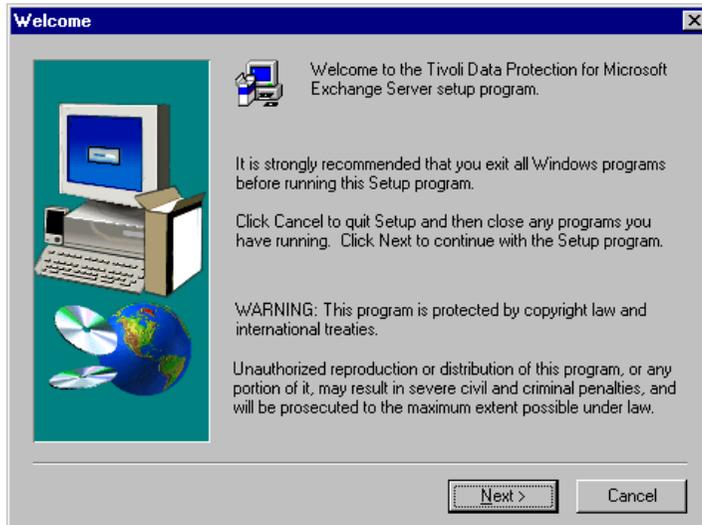

Figure 56. Installing TDP for MS Exchange
1. From Windows Explorer, click on the **setup.exe**. Just like by other Windows-based products, a setup wizard will guide you through the installation process (Figure 56).